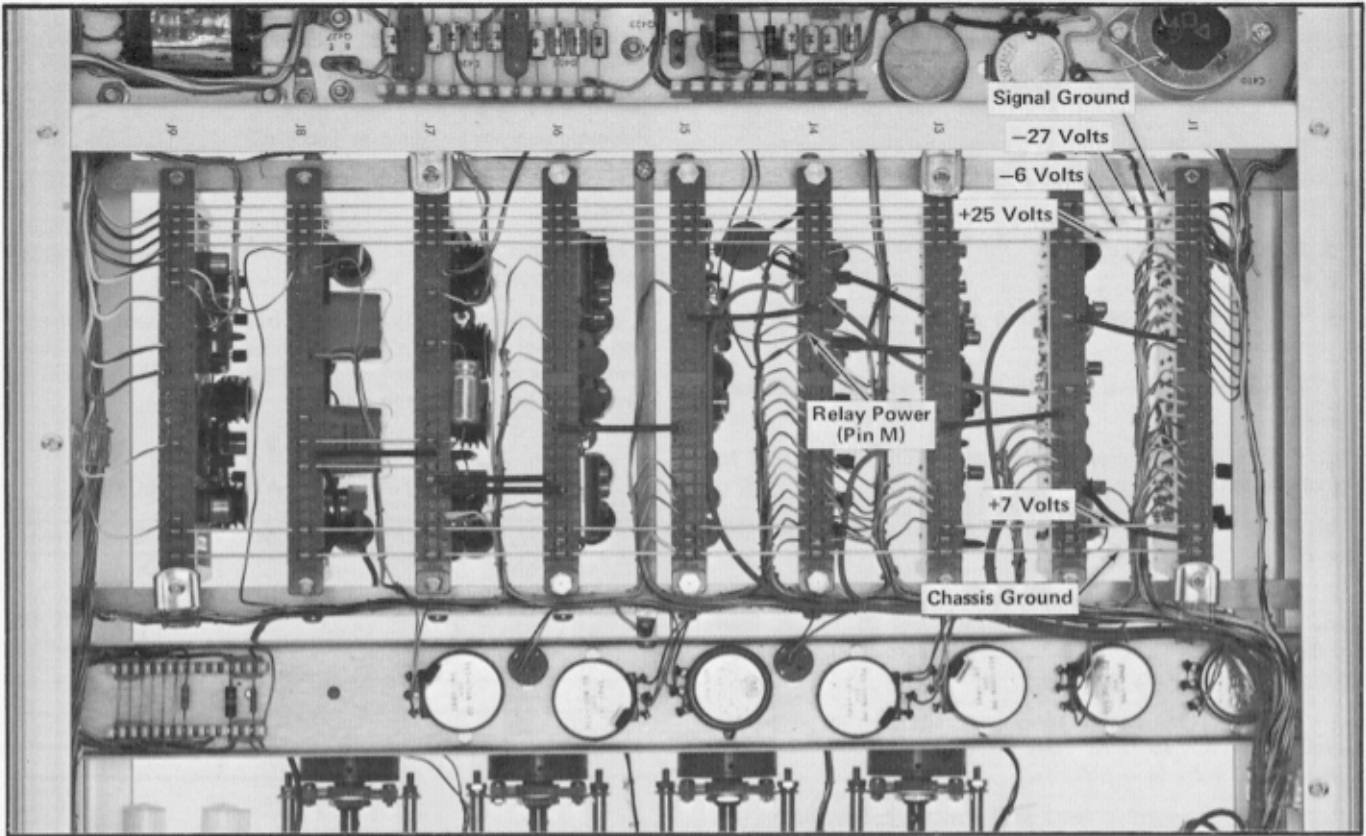

Fig. 6-3. Power supply test points.
1. Adjust +25-Volt Supply ①
b. Connect the negative lead of the DC voltmeter to the signal ground test point (see Fig. 6-3) and the positive lead to the +25-volt test point.
- a. Move the positive lead of the differential voltmeter to the +7-volt test point (see Fig. 6-3).
- d. Move the negative lead to the -27-volt test point (see Fig. 6-3).
- f. Move the negative lead to the -6-volt test point (see Fig. 6-3).
- h. Move the negative lead to the chassis ground test point (see Fig. 6-3).
- k. Leave the negative lead of the meter connected to the chassis ground test point and move the positive lead of the meter to the Relay-Power test point (see Fig. 6-3).
- b. Connect the Channel B 1× test probe to the signal ground test point (see Fig. 6-3).
- d. Connect the Channel A 1× test probe to each of the test points given in Table 6-2 and shown in Fig. 6-3.